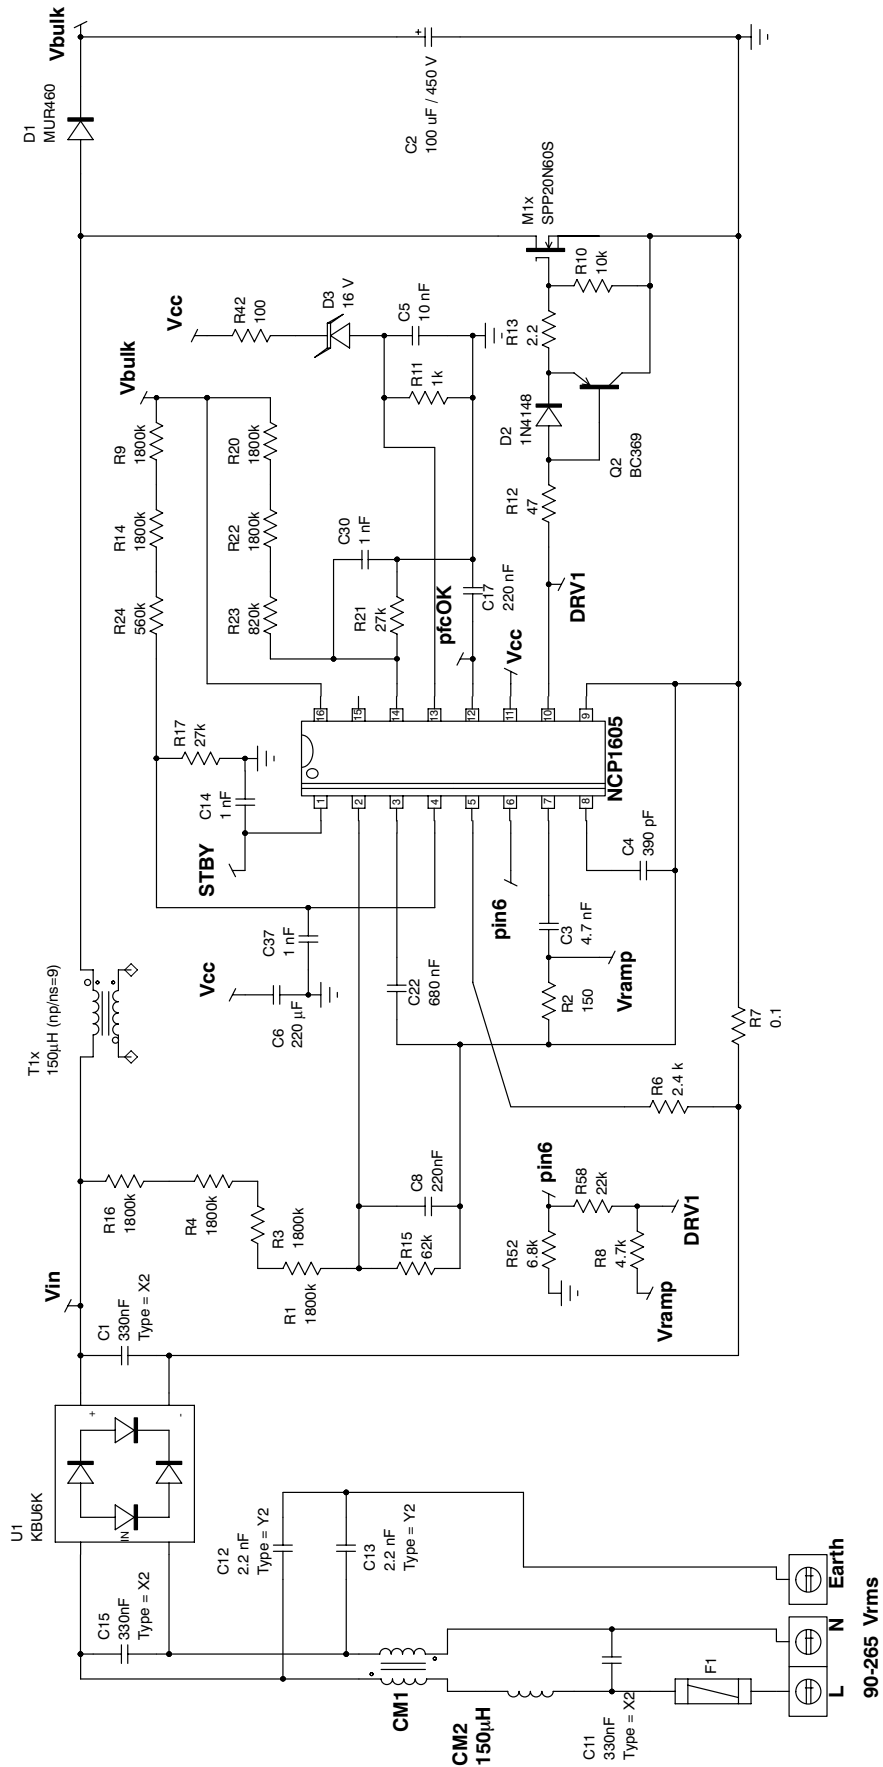

Figure 2. Application Schematic - PFC Stage
- Shut-down: if more than 2.5 V are applied to pin 13, the circuit latches off and cannot recover operation until the SMPS is unplugged (to enable the NCP1605 V_{CC} voltage to drop below its 4 V reset voltage). This lathoff capability is supposed to trigger in case of a major fault like any overheating of the SMPS. In this application, it is used to disable the power supply in case of a severe runaway of the V_{CC} voltage. This is simply made by applying the V_{CC} voltage through a 16 V zener diode (D3) so that if $(V_{CC}-16 \text{ V})$ exceeds 2.5 V, the circuit latches off (see Figure 2). R11 adjusts the biasing current through D3 and together with R42 and C5, this resistor avoids that the protection falsely triggers due to some noise. R42 is chosen small compared to R11 not to modify the threshold since the actual voltage applied to pin 13 is: